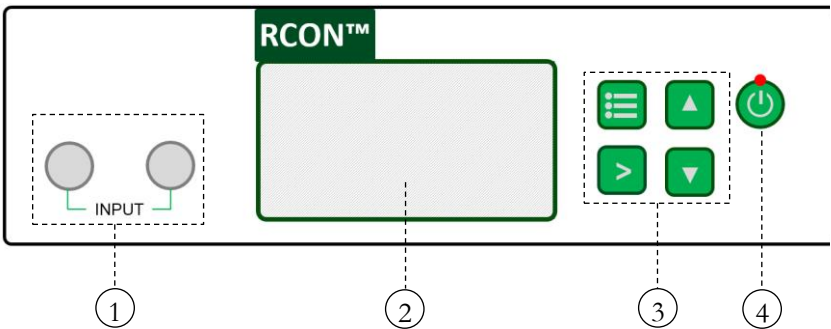
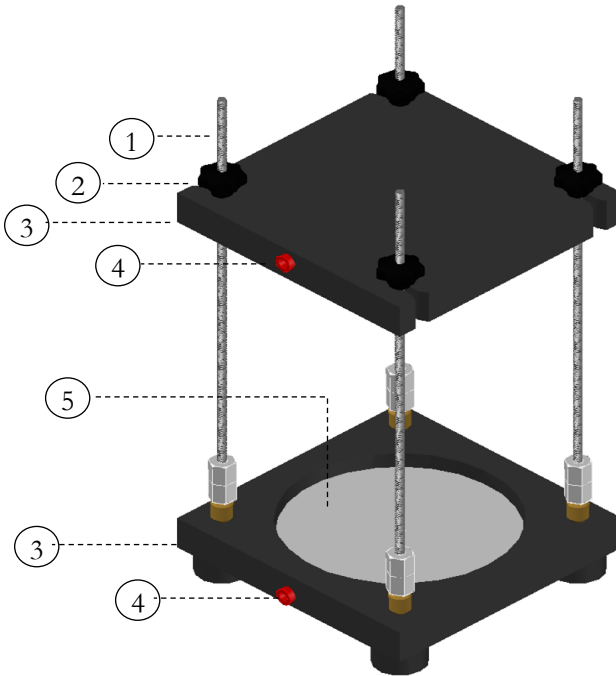

Figure 4. RCON2™ device front panel description
Figure 6. Hardened concrete sample holder description
Giatic RCON2™ has two main components: A measuring device (Figs. 4 and 5), and a sample holder. (Figs. 6 and 7). The measuring device can be used as stand-alone equipment to perform the tests. It can also be connected to a personal computer (PC) using the USB connection port. The Data Monitor software provided in the package controls the device and can be used to record the test data. In this section, the key functions of these components are described.